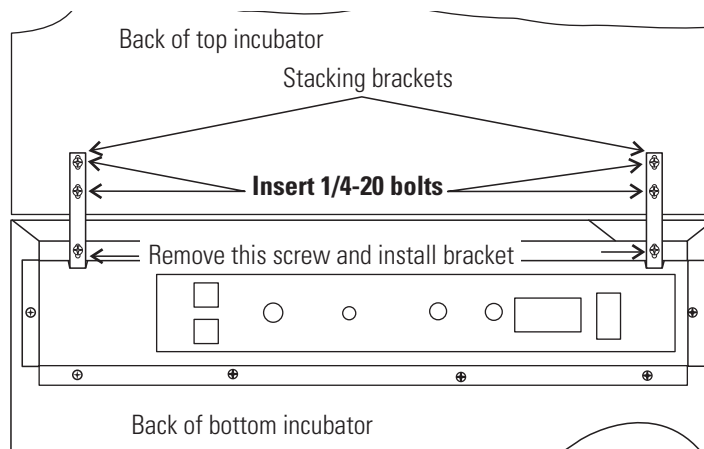

Figure 1-8. Two Screws From Control Panel Back
6. Remove and retain the two screws from the back of the control panel on the bottom unit as identified in Figure 1-8.
7. Secure the stacking brackets to the back of the bottom unit, using the retained screws (Figure 1-8). Be sure to align the brackets with the mounting holes on the back of the upper incubator. Secure the brackets to the upper unit with the $\frac{1}{4}$ -20 bolts provided in the stacking kit. A 7/16" wrench or socket is required for the bolts.